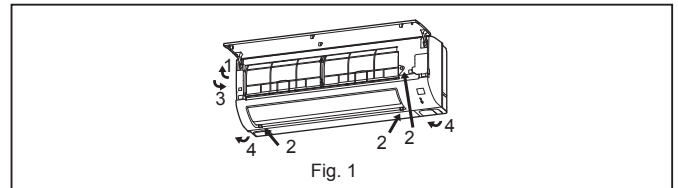

Fig. 1
- 1) Cut the copper pipe as straight as possible with a pipe cutter. (Fig. 1, 2)
Removal procedure (Fig. 1)